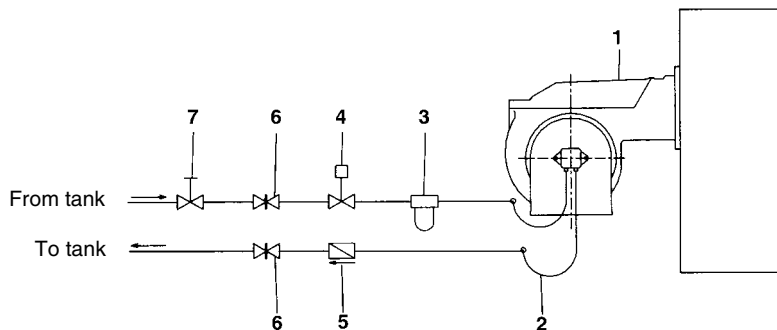

Fig. 5 - Double-pipe system
**NOTE:** in plants where gravity or ring feed systems are provided, install an automatic interception device (see n. 4 - Fig. 5)